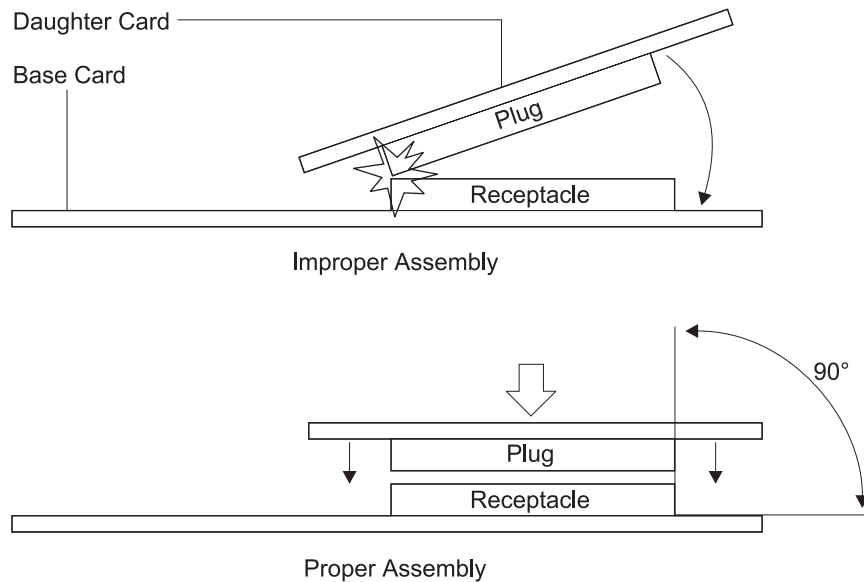

Figure 2-31. Daughter Card Installation
- Note:** Use caution when attaching the daughter card to the base card. In addition to aligning the connectors with the stand-offs you should also align the plug with the receptacle. See Figure 2-31.